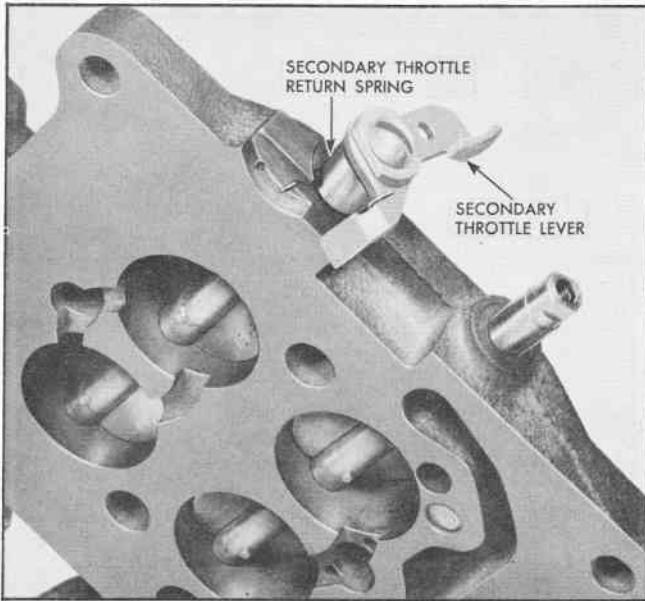

Fig. 18 Proper Assembly of Secondary Throttle Lever
4. Install secondary throttle return spring and secondary throttle lever (Fig. 18).
5. Install secondary throttle washer and screw (Fig. 18).
6. Wind spring 1-1/2 turns with tag wire and hook over secondary throttle lever (Fig. 18).